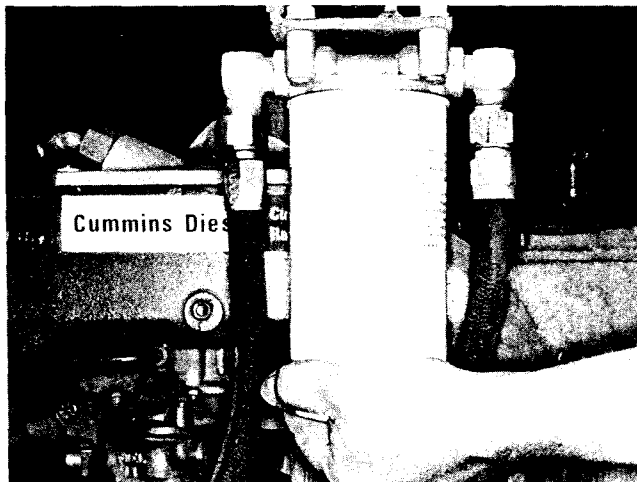

Fig. 2-19, (V11909). Changing "spin-on" type fuel filter
1. Unscrew combination case and element, Fig. 2-19, discard element.